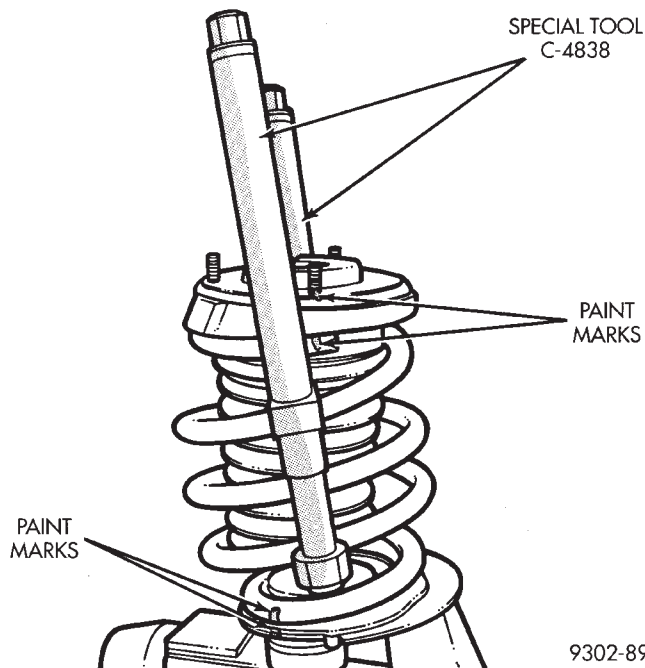

Fig. 1 Compressing Strut Assembly Coil Spring
(1) Remove strut assembly requiring service from the vehicle. Refer to Strut Assembly Removal in Servicing Rear Struts, in this section of the service manual.
(2) Position strut assembly in a vise, by clamping strut assembly by the steering arm (Fig. 1). Using paint or equivalent, mark the strut unit, lower
(3) Position Spring Compressors, Special Tool C-4838 on the strut assembly spring (Fig. 1). Compress coil spring until all load is removed from upper strut mount assembly.